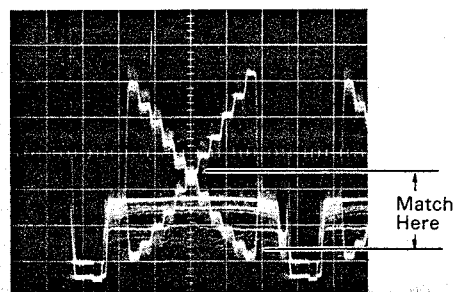

Fig. 6-4-24
- Connect the oscilloscope to TP307(B) and TP309(YL).
- Overlay the B. signal and YL signal on the oscilloscope, and adjust BLUE GAIN PRESET VR317 so that the signals match in the lower half of the gray scale. (Fig. 6-4-24)